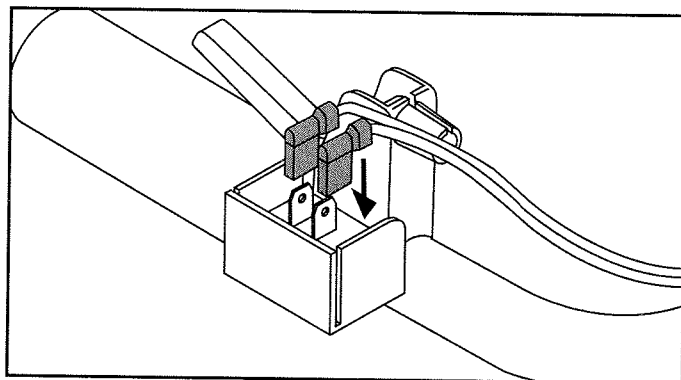

Fig. 12
7. Plug both wires onto the terminals located on the bottom of the ignition switch (Fig. 12).